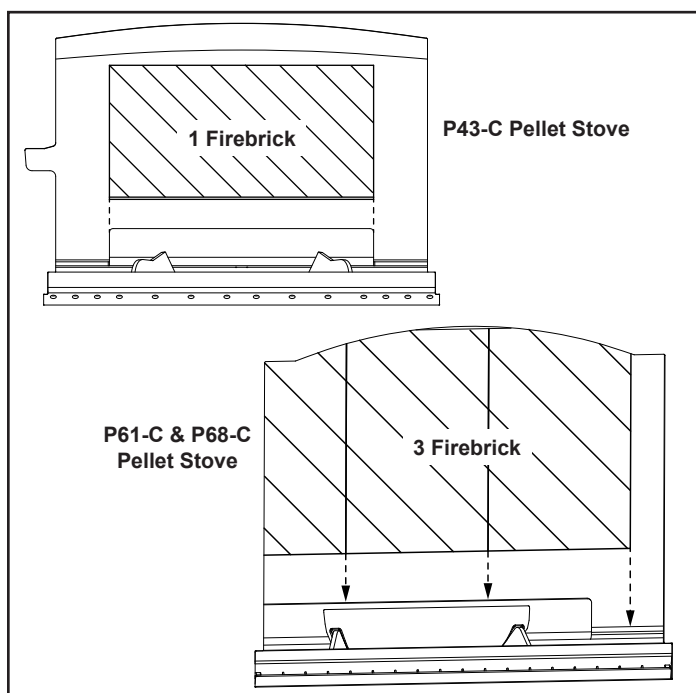

Figure 5.2
The P43-C Pellet Stove has a single (1) firebrick that gets installed horizontally on the angle bracket above the burnpot. The P61-C and P68-C have three (3) firebrick that get installed vertically on the angle bracket. Figure 5.2.